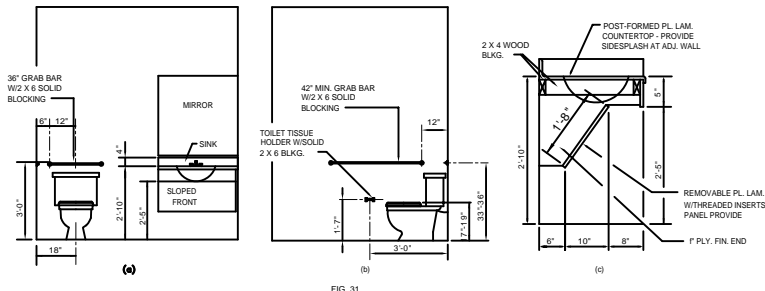

FIG. 31 LAVATORY & WATER CLOSET CLEARANCES
- 4.16.3 HEIGHT. THE HEIGHT OF WATER CLOSETS SHALL BE 17" TO 19" (430mm TO 485mm), MEASURED TO THE TOP OF THE TOILET SEAT. SEATS SHALL NOT BE SPRUNG TO RETURN TO A LIFTED POSITION (SEE FIG. 31).
- 4.16.4 GRAB BARS. GRAB BARS FOR WATER CLOSETS NOT LOCATED IN STALLS SHALL COMPLY WITH 4.26 AND FIG. 31. THE GRAB BAR BEHIND THE WATER CLOSET SHALL BE 36" (915mm) MINIMUM.
- 4.16.6 DISPENSERS. TOILET PAPER DISPENSERS SHALL BE INSTALLED WITHIN REACH, AS SHOWN IN FIG. 31. DISPENSERS THAT CONTROL, DELIVER, OR THAT DO NOT PERMIT CONTINUOUS PAPER FLOW, SHALL NOT BE USED.
- 4.17.6 GRAB BARS. GRAB BARS MAY BE MOUNTED WITH ANY DESIRED METHOD AS LONG AS THEY HAVE A GRIPPING SURFACE AT THE LOCATIONS SHOWN IN FIG. 31 AND DO NOT OBSTRUCT THE REQUIRED CLEAR FLOOR AREA. GRAB BARS SHALL COMPLY WITH 4.26.
- 4.19.2 HEIGHT & CLEARANCES. LAVATORIES SHALL BE MOUNTED WITH THE RIM OR COUNTER SURFACE NO HIGHER THAN 34" (865mm) ABOVE THE FINISH FLOOR. PROVIDE A CLEARANCE OF AT LEAST 27" (688mm) ABOVE THE FINISH FLOOR TO THE BOTTOM OF THE APRON (SEE FIG. 31).
- 4.19.6 MIRRORS. MIRRORS SHALL BE MOUNTED WITH THE BOTTOM EDGE OF THE REFLECTING SURFACE NO HIGHER THAN 40" (1015mm) ABOVE THE FINISH FLOOR (SEE FIG. 31).
- 4.24.2 HEIGHT. SINKS SHALL BE MOUNTED WITH THE COUNTER OR RIM NO HIGHER THAN 34" (865mm) FROM THE FINISH FLOOR (SEE FIG. 31).